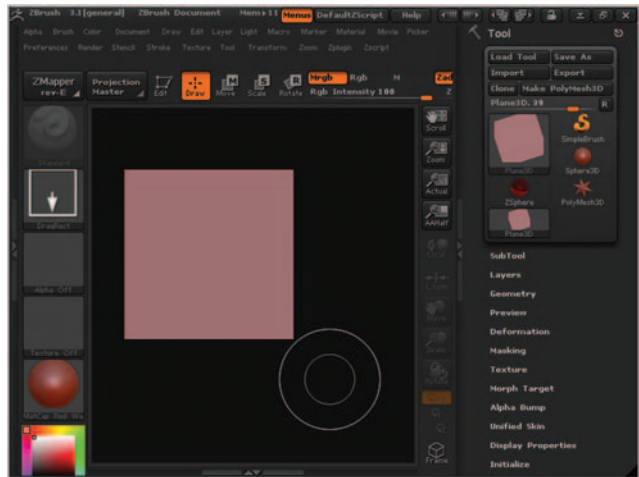

Figure 11.11 Plane3D object created in the viewport using left-click along with Shift to constrain the orientation.
3. In the work area of the ZBrush UI, left-click and drag to create a Plane3D object into the viewport. I recommend holding down Shift to constrain the object's orientation. Figure 11.11 shows the Plane3D object in the ZBrush viewport.